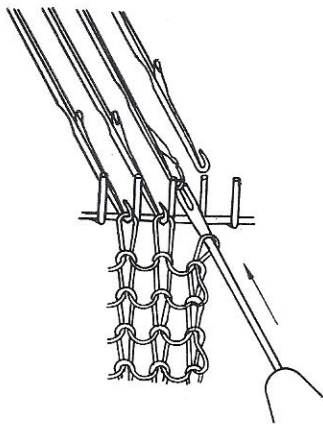

Fig. 12
2. When the loop drops behind the Tappet, push the Remover downward, and the loop will be freed from the needle eye, and will be transferred to the Remover. (Fig. 12).